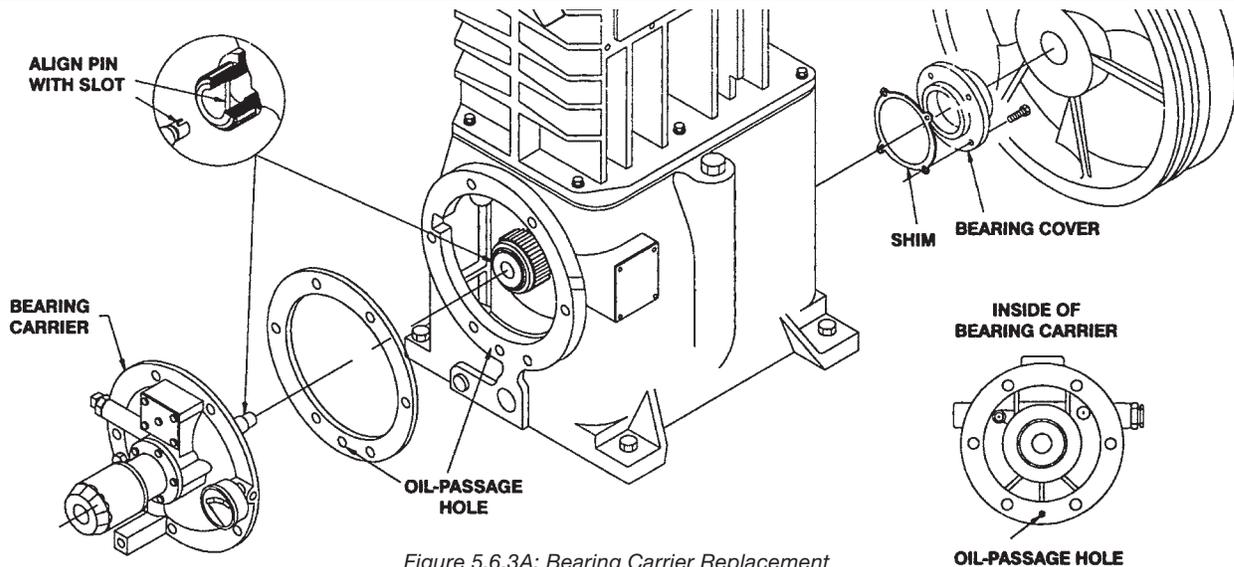

Figure 5.6.3A: Bearing Carrier Replacement
2. Press the new bearings into position and reassemble the crankshaft and bearing carrier to the crankcase. When reinstalling the bearing carrier, make sure the oil pump shaft slot is aligned with the pin in the crankshaft. Make sure to install the bearing carrier gasket so the oil passage hole is not blocked (see figure 5.6.3A).